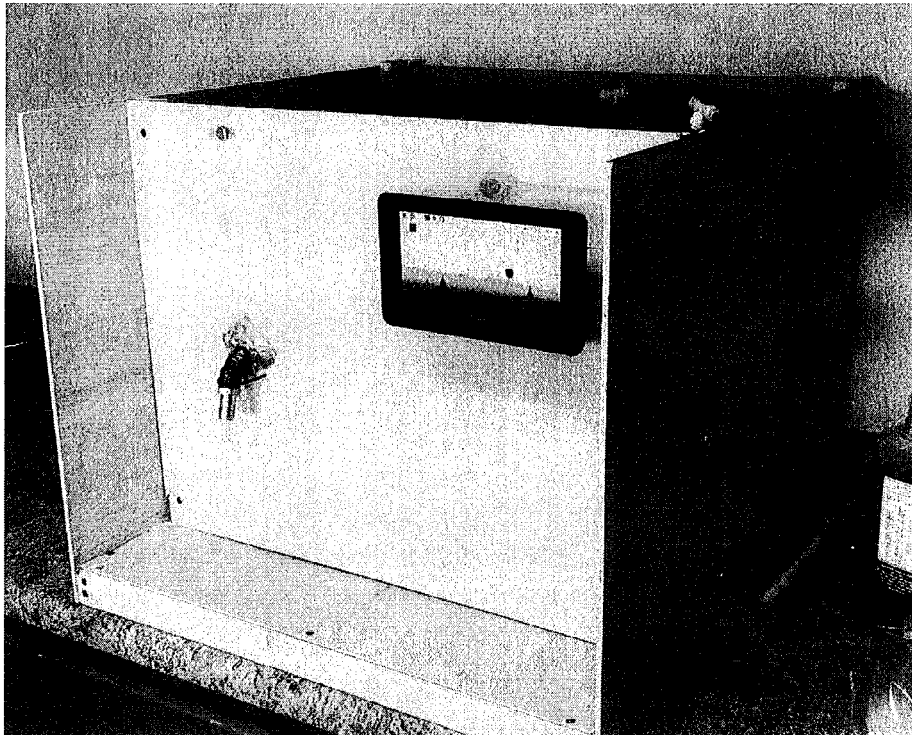
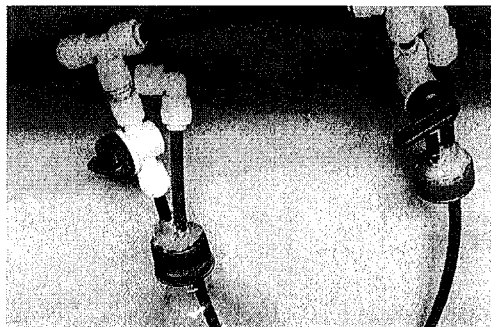

Figure 5: First complete product
Figure 6: bottle attachment points
MVP #3 combines MVP #2 and MVP #1 in a complete functional product. This can be better demonstrated to customers to see what they think of how it works. This product has the combined working fluid systems and a box to make it look good and marketable. Figure 5 is the picture we showed the at the demonstrations. Figure 6 is a picture of how the bottles are attached in the back of the machine. These bottles are simply screwed on and the valve is opened to pressurize them.
- About: The MVP was shown as it was pictured in Figure 5 with the modifications described above. This was taken to class and shown as part of our demonstration pitch. During this demonstration we showed how you could select a mix on the raspberry pi and it would automatically dispense this mix.
- About: The MVP in Figure 5 along with a video of it functioning was shown to the server/ bartender Eli. Comments, recommendations, and improvements were then asked for.